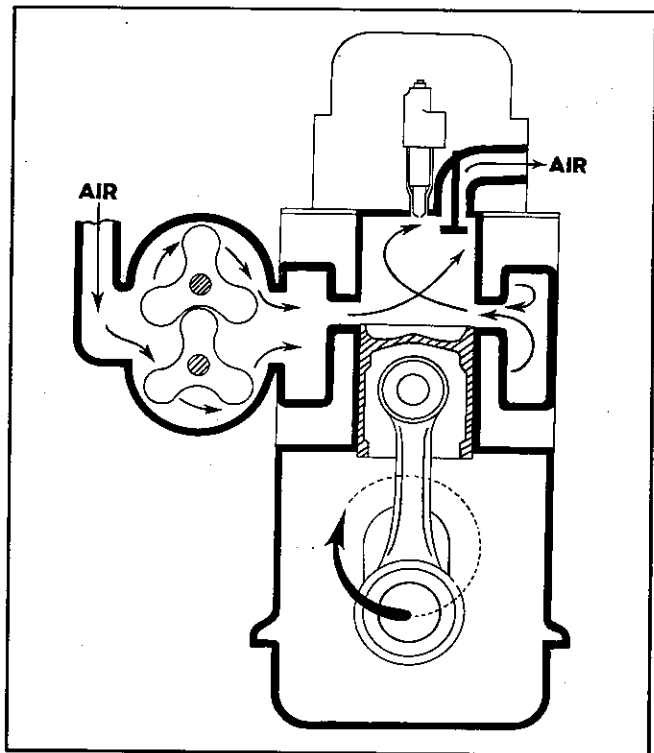

Fig. 1—Air Entering Through Port to Combustion Chamber.
**Two-Cycle Diesel Engine**—Four strokes are required to complete a cycle in the four-cycle engine, which functions half the time as an air pump. In the two-cycle engine, intake and exhaust take place during part of the compression and power strokes. A two-cycle engine, therefore, does not function as an air pump, so an external means of supplying the air is provided. A specially designed blower, bolted to the side of the engine, forces air into the cylinders in order to expel the exhaust gases and fill the cylinders with fresh air for combustion, as shown in Figs. 1, 2, 3, and 4.
soon as the top face of the piston uncovers the ports, as shown in Fig. 1. The unidirectional flow of air towards the exhaust valves produces a scavenging effect, leaving the cylinders full of clean air when the piston again covers the inlet ports.
When these ports are uncovered, the cylinder volume is again swept with clean scavenging air, as shown in Fig. 1. This entire combustion cycle is completed in each cylinder for each revolution of the crankshaft, or, in other words, two strokes; hence, the "two stroke cycle."